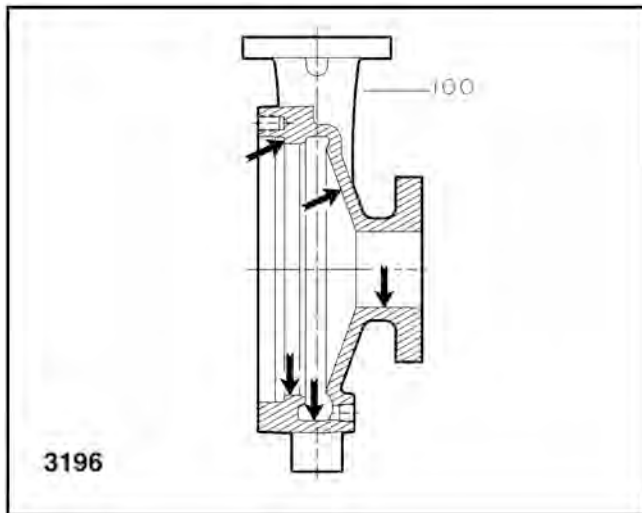
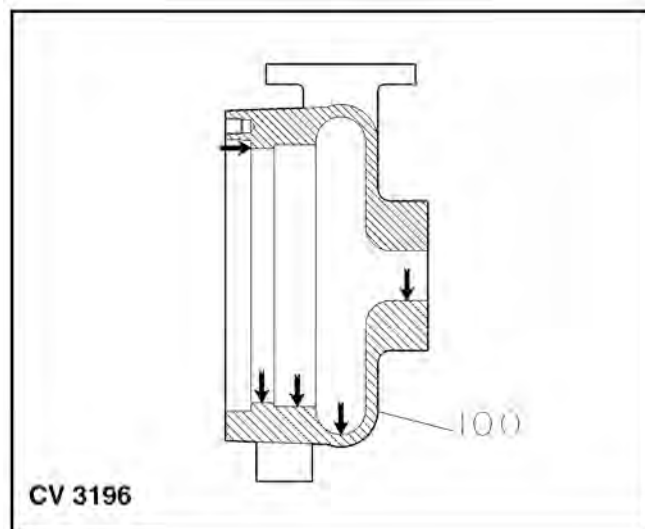
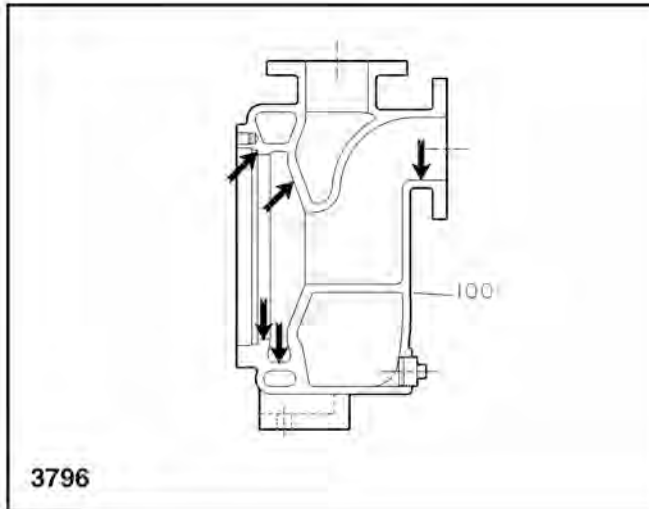

Figure 41:
Figure 42:
Figure 43:
The casing (100) should be inspected for cracks and excessive wear or pitting. It should be repaired or replaced if it exceeds the following criteria (Fig. 41, Fig. 42, and Fig. 43).